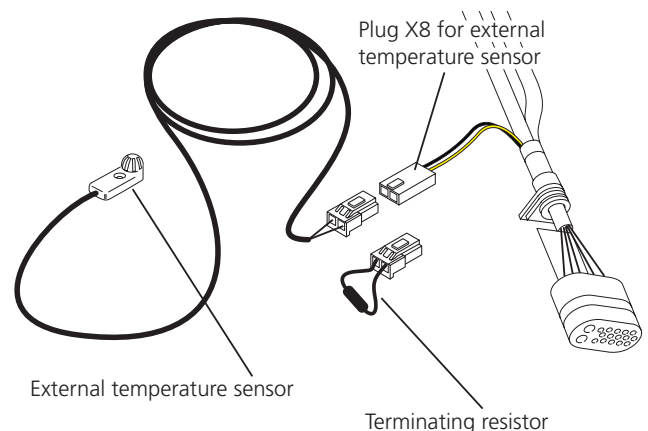

Figure 28: External Temperature Sensor
3. Remove the terminating resistor at plug X8 of the wiring harness (see Fig. 28).